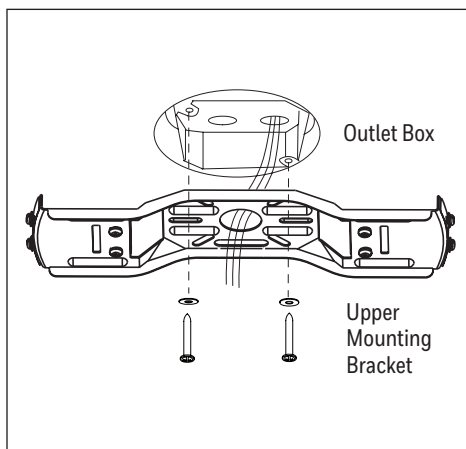

Figure 2.1
1. Install the upper mounting bracket to the outlet box (not included) using the screws and washers provided with the outlet box. **WARNING:** To reduce the risk of fire, electric shock, or personal injury, mount to the outlet box marked “acceptable for fan support” (Figure 2.1).